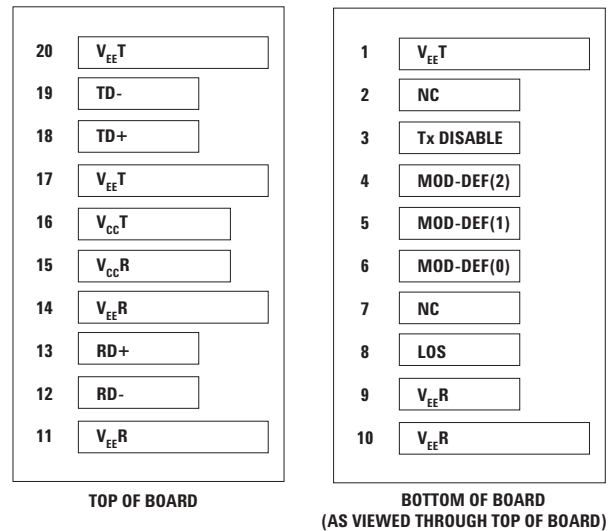
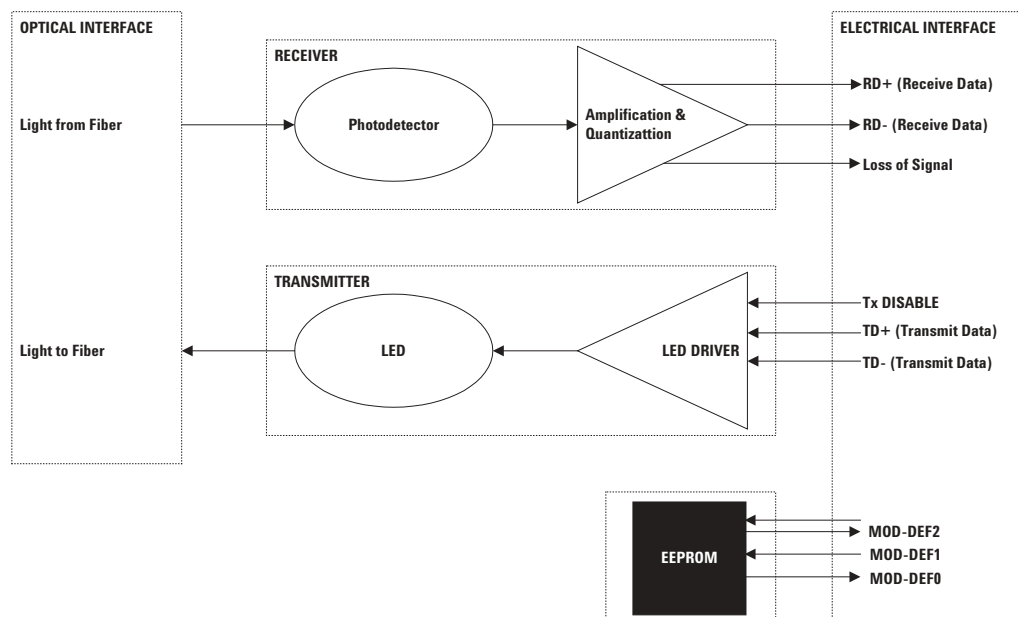

Figure 2. Connection diagram of module printed circuit board.
Figure 1. Transceiver functional diagram
Figure 1 illustrates the major functional components of the HFBR-5764AP. The connection diagram of the module is shown in Figure 2. Figures 5 and 7 depict the external configuration and dimensions of the module.
The HFBR-5764AP can be installed in or removed from any MultiSource Agreement (MSA)–compliant Small Form Pluggable port regardless of whether the host equipment is operating or not. The module is simply inserted, electrical interface first, under finger pressure. Controlled hot-plugging is ensured by design and by 3-stage pin sequencing at the electrical interface. The module housing makes initial contact with the host board EMI shield mitigating potential damage due to Electro-Static Discharge (ESD). The 3-stage pin contact sequencing involves (1) Ground, (2) Power, and then (3) Signal pins, making contact with the host board surface mount connector in that order. This printed circuit board card-edge connector is depicted in Figure 2.